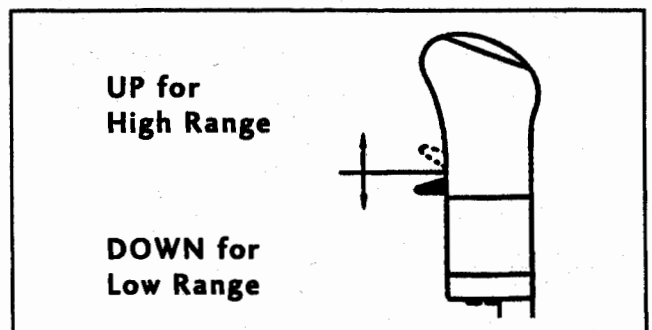

Figure 2
2. With the clutch pedal fully depressed to engage the clutch brake (See "Trucking Tips: Clutch Brake"), position the range selector to low range (Figure 2). Move the gear shift lever into 1st gear.